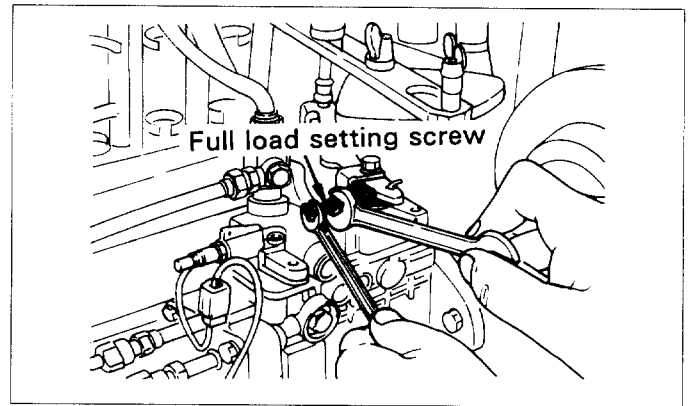
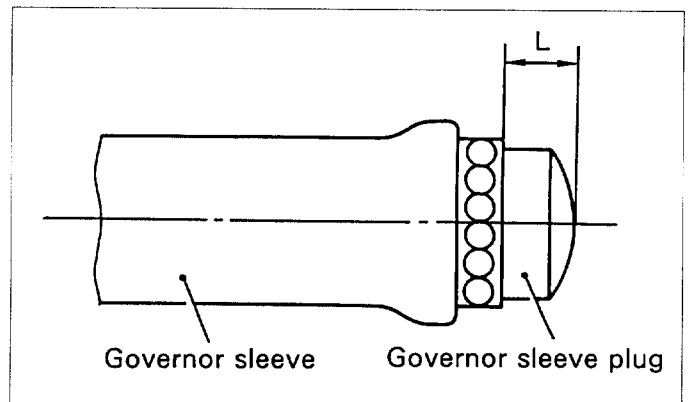

Fig.15-20 Adjustment of maximum speed setting screw
Fig.15-21 Governor sleeve plug
(3) High speed fuel quantities are set by making the appropriate adjustment of the high speed adjustment screw. Turning the screw in will reduce the fuel quantity, while backing out the adjusting screw will increase the high speed fuel delivery. (See Fig.15-20 and example below)
(4) Run the pump at the various speeds, as listed on the test specifications, and check the fuel delivery of the pump, as compared to the test specification.
(5) If start fuel quantity is out of the specified limit, it can be adjusted, to achieve the specific value, by changing the governor sleeve plug ⑨. An increase in the length of the plug by 0.2mm will reduce the start quantity by approximately 1.6cc/200st. Plug length (See Fig.15-21) are available in eight different lengths as following table.